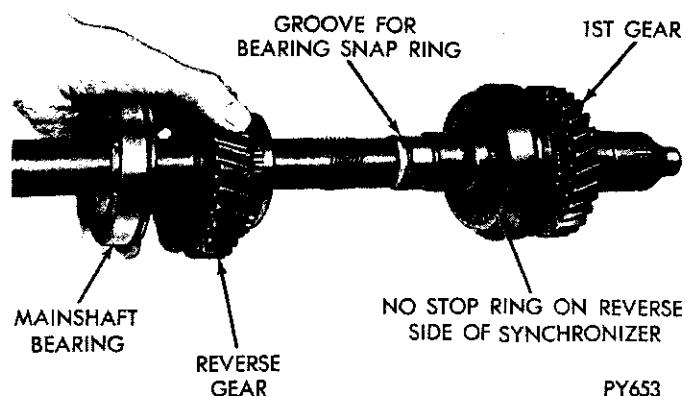

Fig. 20—Reverse Gear and Mainshaft Bearing—Removal or Installation
- (7) Remove from press and slip off the end of shaft, the mainshaft bearing and reverse gear (Fig. 20).
(17) Slide reverse gear and mainshaft bearing in place and take to press, to force bearing on shaft (Fig. 20).